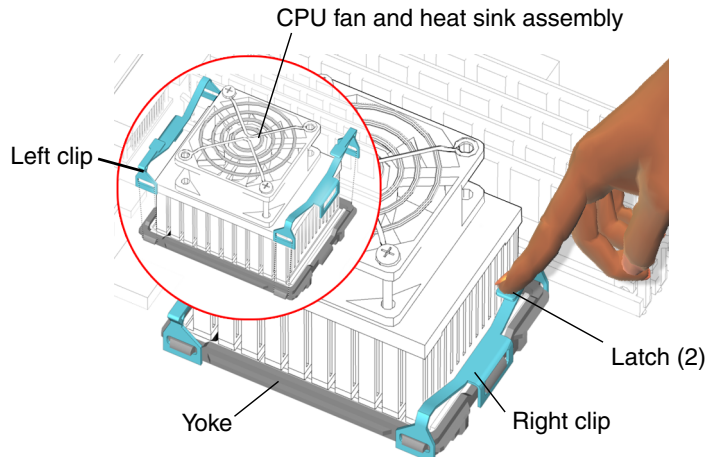

FIGURE 11-11 Removing CPU Fan Assembly Clips
7. Remove the right and left clips (FIGURE 11-11).